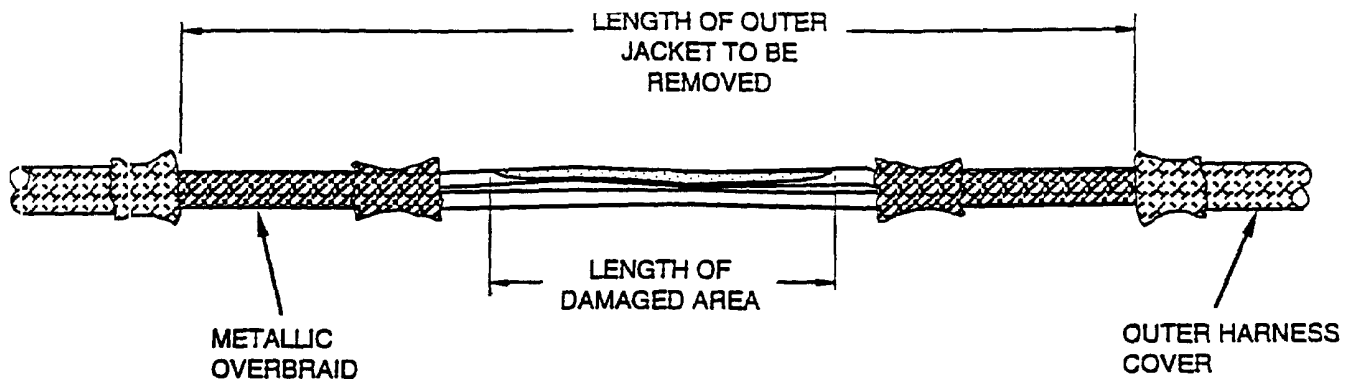

Figure 39. Wire Damaged Area
d. Determine the length of the damaged area (Figure 39), and pull the braid and shield further back in accordance with Table 8.